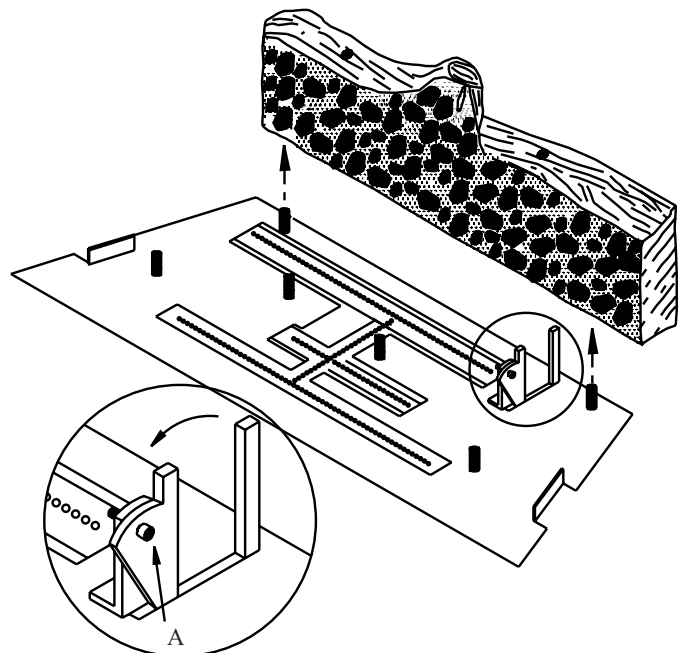

Figure 10
- 2) At the rear of the firebox is a log retainer (the circled area in Figure 10). This retainer can be rotated forward to increase the size of the flames in front of the rear log. Rotate the retainer by loosening screw A. For inserts burning propane the retainer may be rotated half the way forward. For inserts burning natural gas, the retainer may be rotated all the way forward. It may be necessary to try various setting to find the optimum one. Never rotate the retainer to such an extent as to cause sooting.
- 3) Align the holes in the bottom of the rear log (the longest log in the set) with the two pegs just to the rear of the rear burner tube and slide the log down onto the pegs. See Figure 10. The charred black surface of the log should face the front. (Continued on the following page).